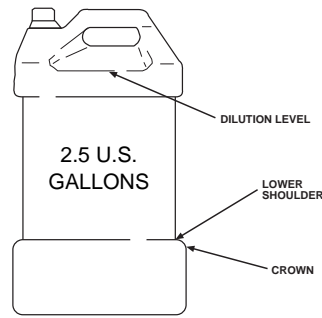

FIGURE 1
2. Visually check the level of Renalin® in the container. A properly filled 2.5 U.S. gal. container should have a liquid level at the crown below the lower shoulder (see Figure 1). If liquid level is more than 1/2" (1.27 cm) below the lower shoulder, DO NOT USE. This could lead to ineffective Renalin® solution after dilution.
3. Remove the vented cap from the 2.5 gal. Renalin® container. Add AAMI quality water to the container until the liquid level reaches the depression on the container indicated in Figure 1. Properly filled, the total diluted volume is approximately 2.5 U.S. gallons (9.463 liters). The Renalin® container must be level when liquid levels are observed. An unlevel container may produce errors in observations and cause improper dilutions.
CAUTION – DO NOT OVERFILL CONTAINER WHEN DILUTING RENALIN® COLD STERILANT (SEE FIGURE 1). OVERDILUTING MAY LEAD TO INEFFECTIVE RENALIN® CONCENTRATIONS. DILUTED RENALIN® SOLUTION MUST BE MIXED THOROUGHLY.